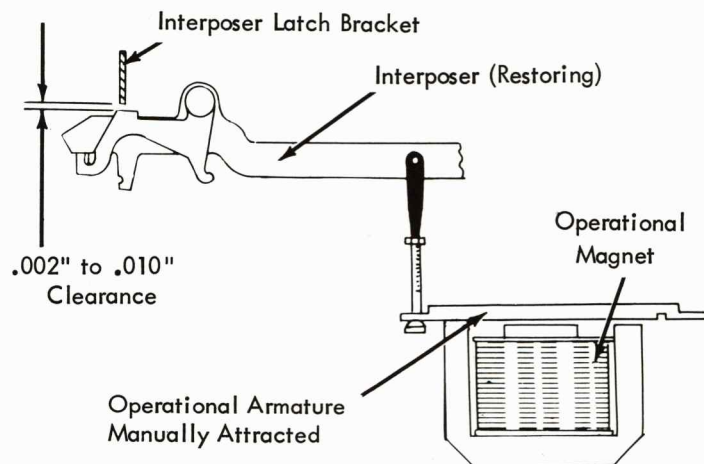

FIGURE 127. Check, Trip Link
5. Pull Link (Fig. 127) - Adjust the operational pull links so that a .002" to .010" clearance exists between the interposer latch bracket and the interposer latch at the point of relatching.